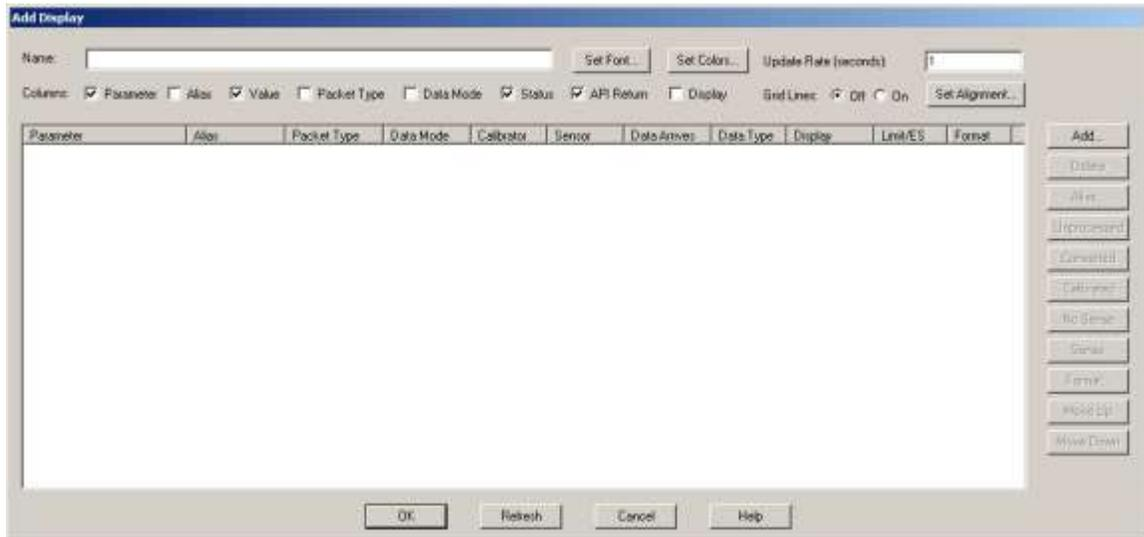

Figure 28 Add Display Dialog
4. In the **Displays** dialog, push the **Add** button. The Add Display dialog is shown in Figure 28. This dialog provides a way for you to name the display, select which columns to show on the display, identify what parameters should be shown on the display, and set other display characteristics such as update rate, font, colors, grid lines, and text alignment.